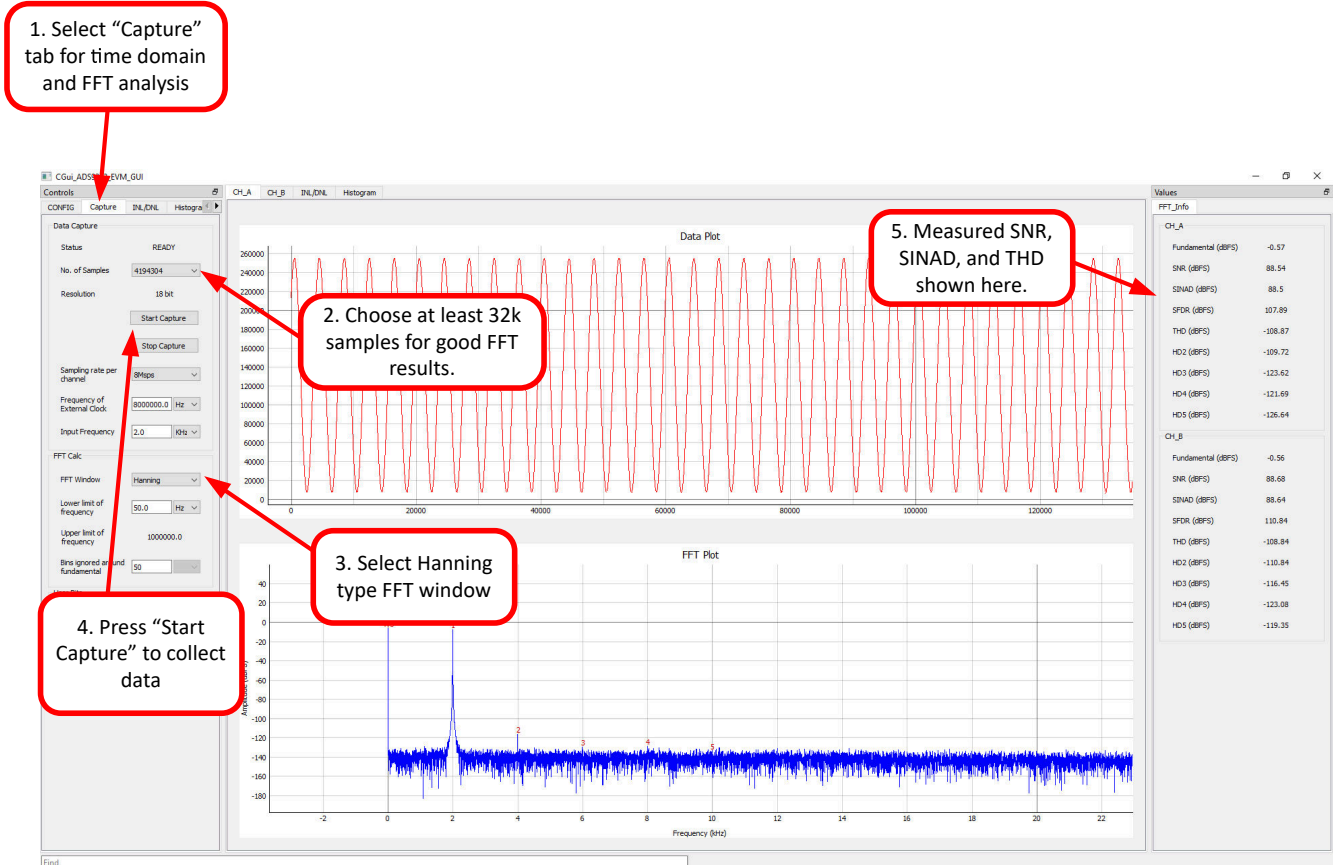

Figure 3-6. Initial Required Setup on the Capture Tab
7. Press the *Start Capture* button to collect and analyze the data displayed on the appropriate CHx tab; see Figure 3-6.
An example data capture display is shown in Figure 3-6. In this step, the necessary updates to the *Capture* settings are made to capture the time domain data and to get a good frequency domain result. First, update the number of samples to at least 32k to get good frequency domain results (for example, accurate FFT display, SNR data, and THD data). Next, select the Hanning type window to eliminate spectral leakage in the FFT result.